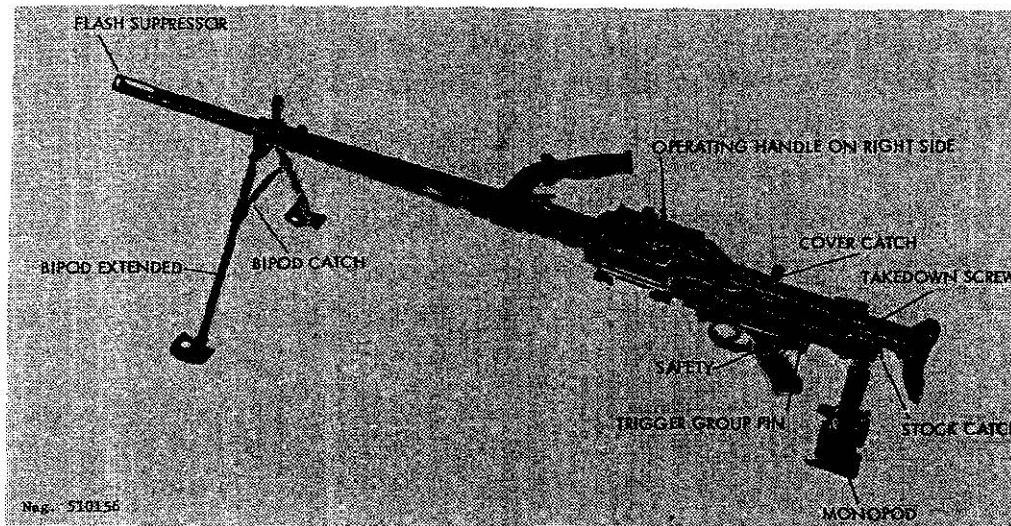
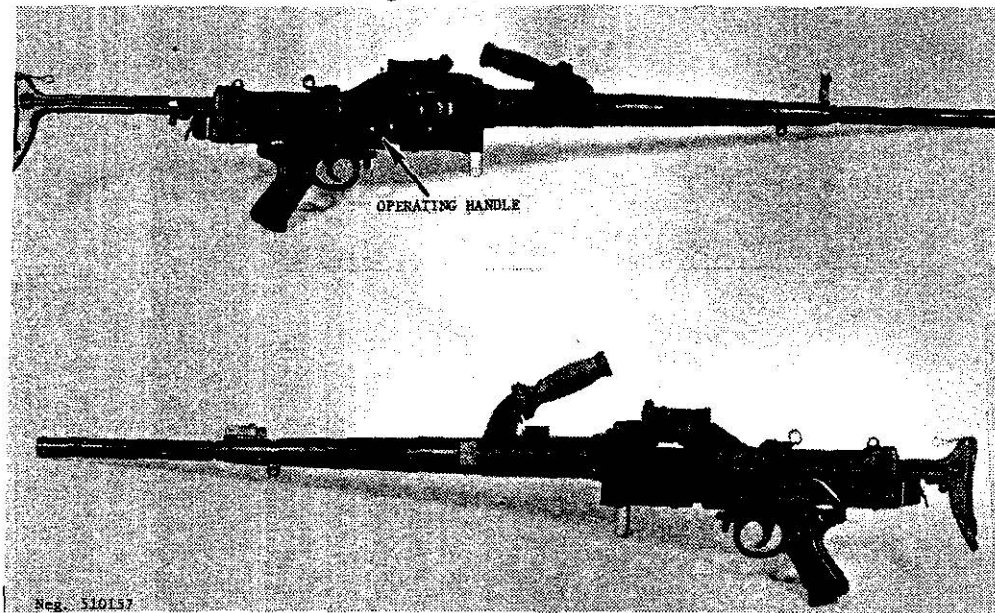
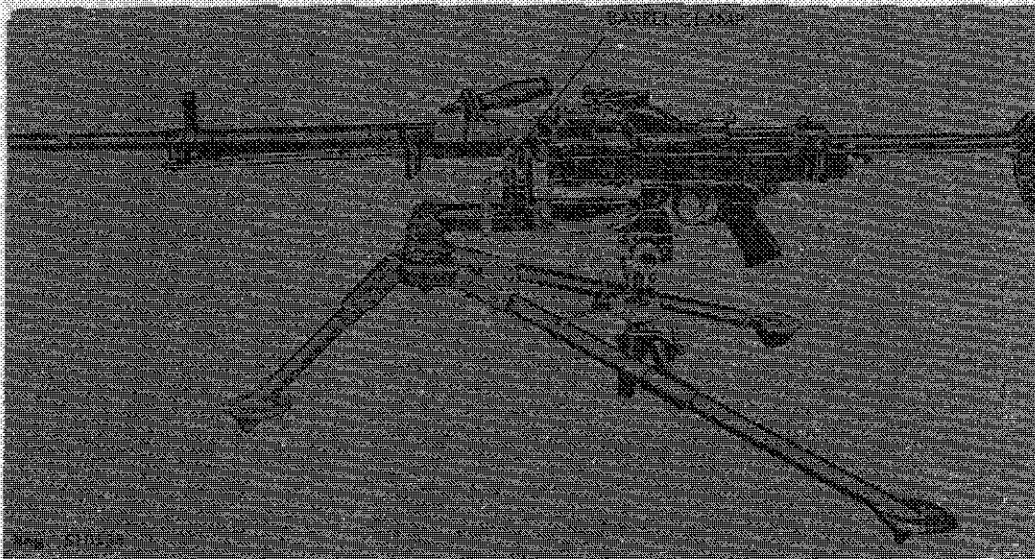

Figure 157. French AA-52 light machinegun.
Figure 158. French AA-52 heavy machinegun.
Figure 159. AA-52 heavy machinegun on tripod.
a. The AA-52 machinegun (fig 157 and 158) is the standard general-purpose machinegun of the French Army. The gun can be readily fitted with one of two different weight barrels, fired from a bipod (fig 157) or a light tripod (fig 159), and fired
b. If the weapon is bipod equipped, unsnap the catch (fig 157) and swing the bipod down. When it is at a right angle to the barrel, spread the bipod legs. If the gun is to be used on a tripod, mate the front recess of the trigger guard with the mount adaptor, then close the barrel clamp (fig 159) and tighten. Press the catch (fig 157) and extend the stock if desired.
c. Pull the operating handle (fig 158) fully rearward, then thrust it fully forward. Press the safety (fig 157) to the left (safe). Press the cover catch (fig 157) forward and open the cover.
- a. Clear the gun (para 208f). Press the cover catch (fig 157) forward and open the feed cover.
- b. Unscrew the takedown screw (fig 157) at the left rear of the receiver and remove it. CAUTION: Press down on top of the butt while removing the takedown pin. Ease the butt stock upward and remove it. Pull out the driving spring and guide.
- d. Remove the trigger group pin (fig 157) after depressing its lock, and pull the trigger group out of the receiver.